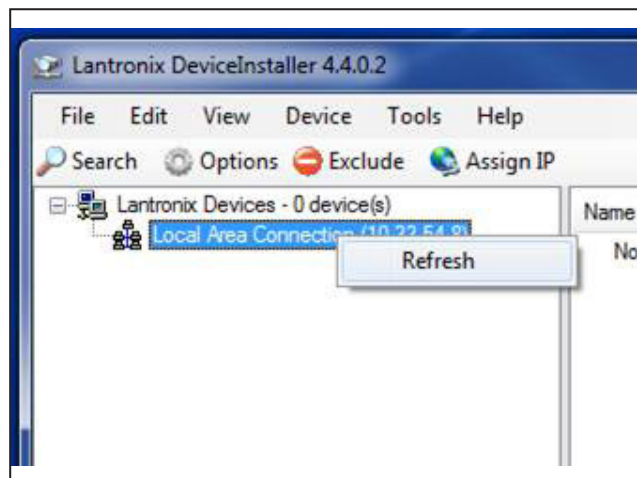

Figure 20 LanTronix DeviceInstaller Screen
1. From the Lantronix DeviceInstaller, right-click on the appropriate connection and select refresh (Figure 20).